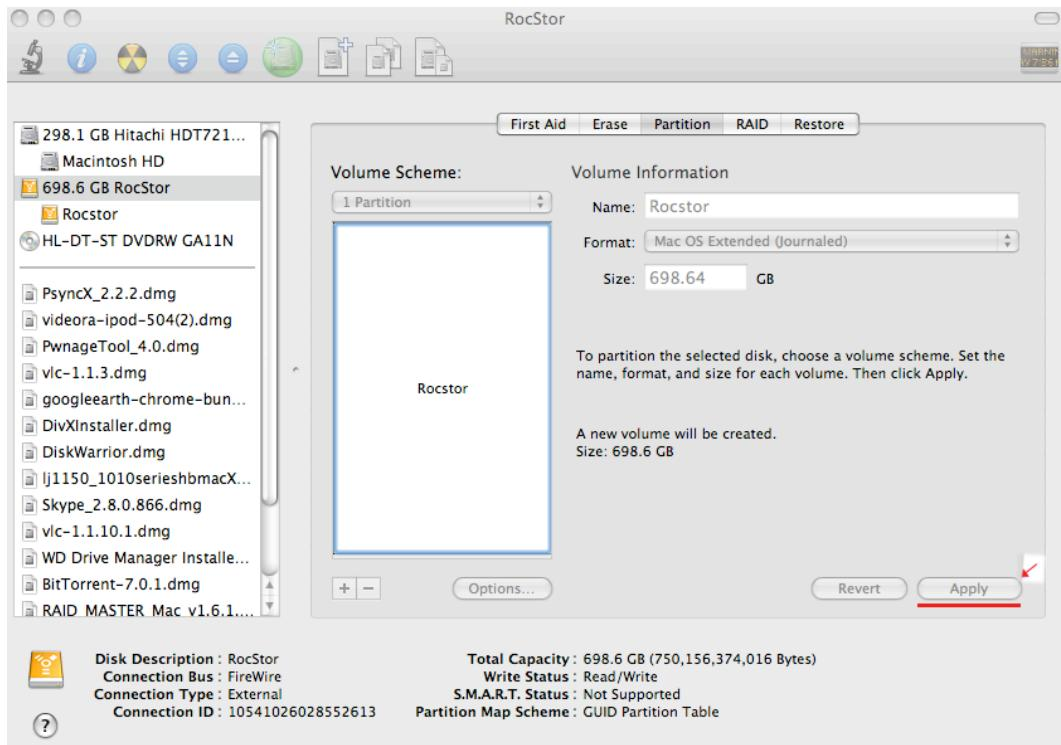
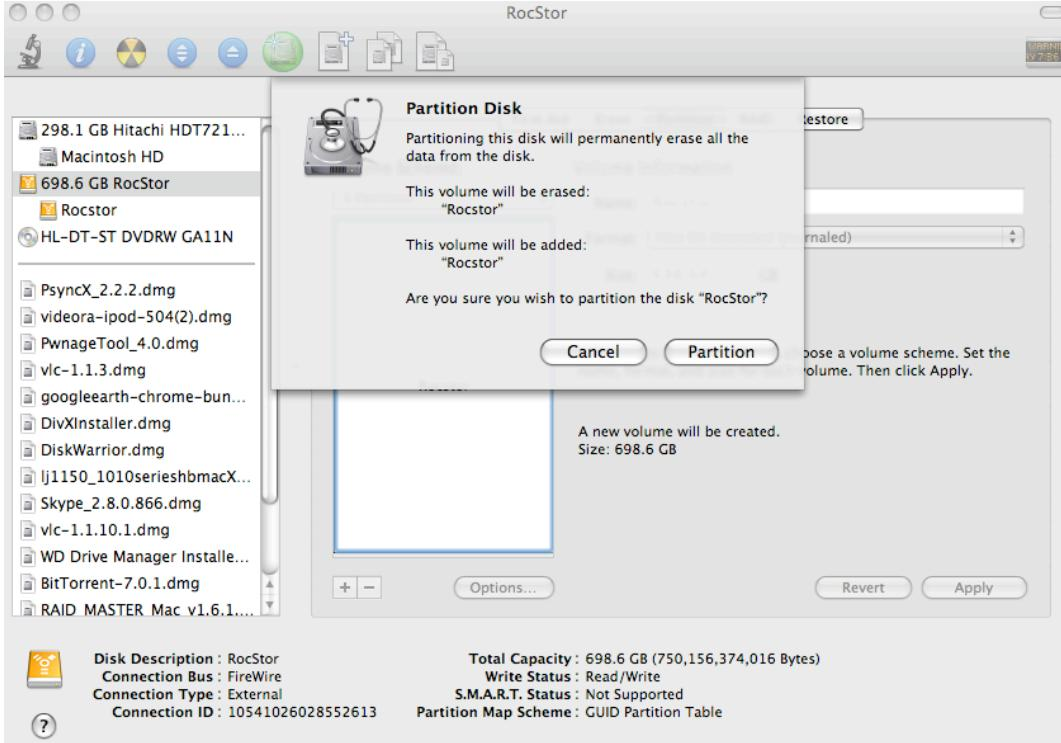

Figure 7.1
Figure 8.0
14. After selecting the type of format, click the “**Apply**” tab in the lower right of the screen, (figure 7.1.) On the next screen, Partition Disk, click “**Partition**” (figure 8.0)